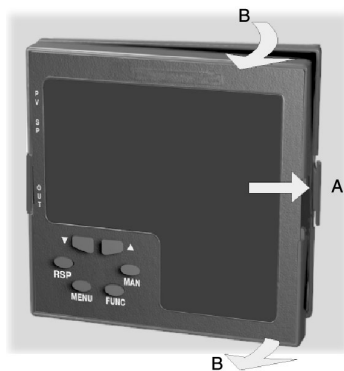

Fig. 1
- While the lock A is maintained out, slide out the right side of the instrument (see fig. 1).